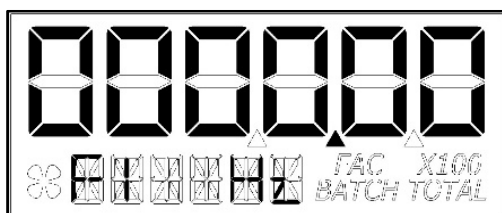

Figure 34-2
The software will read the existing K-factor table from the computer and will display the first frequency on the top row (see Figure 34-2) with the left most character in focus to indicate the user can change the value. Minimum frequency value allowed is 0.25 Hz and the maximum allowable frequency value is 3000.00 Hz. The decimal point for the frequency value is fixed.
**NOTE:** Entering all zeros (see Figure 34-2) will store the value as a minimum frequency (0.25 Hz).